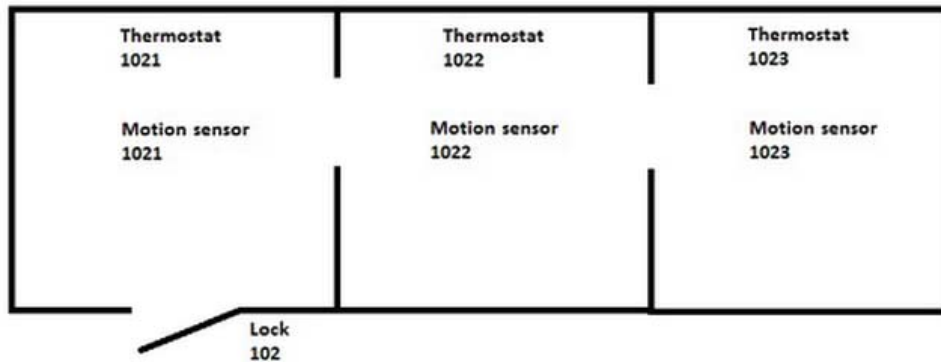
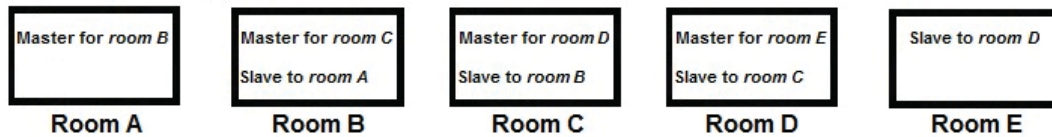

Figure C21
Figure C23
One possible suite configuration is to have only one door to the entire suite. In the example shown in *Figure C21*, the suite contains the rooms 1021, 1022 and 1023; each room has one thermostat and one motion sensor. Room 1021 is the *master room* for room 1022 and room 1022 is the *master room* for room 1023. The lock 102 is connected to the thermostat in the first room, i.e. to *thermostat 1021*, when the online network is set up. **Note:** For more information about the suite functionality, see section More about how the suite works.
In the configuration with only one door to the entire suite, the thermostats are initialized in a chain. The principle is described in *Figure C23*; room A in the room chain is master for room B, which is in turn master for room C etc. This and this section describe the example from *Figure C21*, i.e. three rooms in a chain.
3. All thermostats except for the last one in the chain (see Figure C23 for a description of the principle) have been initialized with suite settings according to this section.